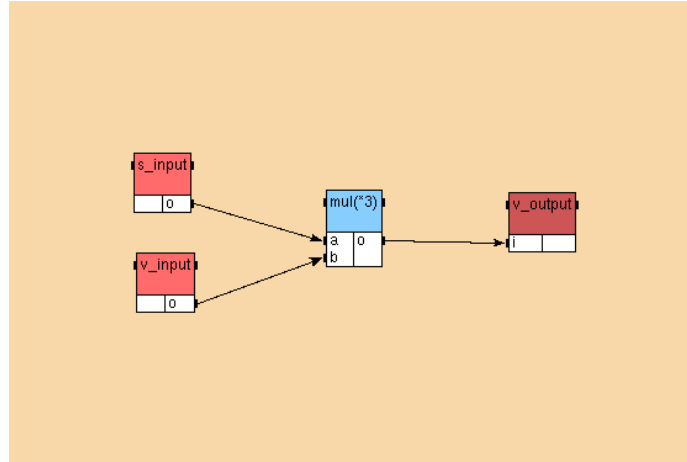

Figure 4.5: AlgorithmMain2 of the **Example 4**
- create dependences between the references in order to obtain the main algorithm (cf. figure 4.5);